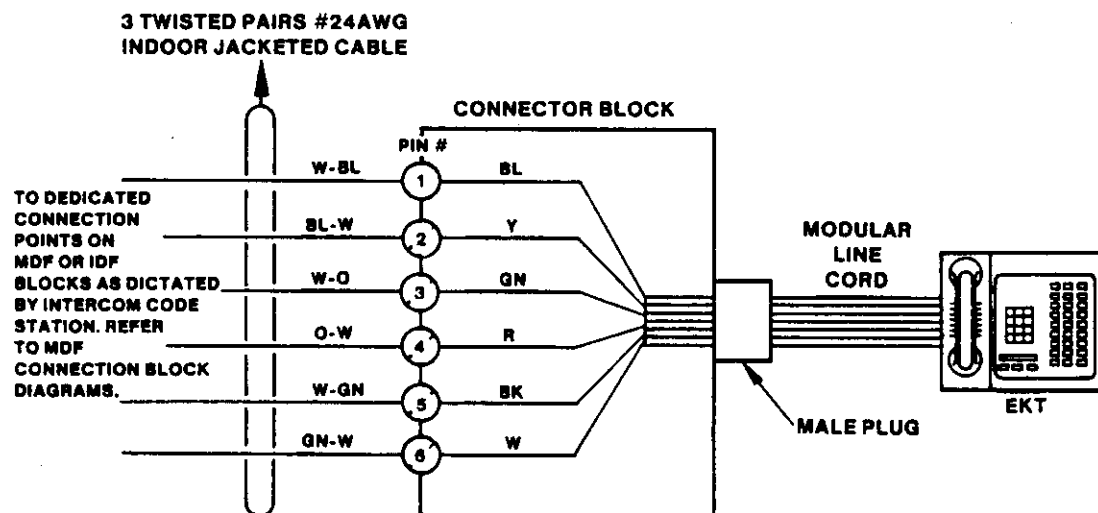

FIGURE 2 — STATION CONNECTOR BLOCK CONNECTIONS
is 25 feet. The 6 conductors of the station running cable and the 6 conductors of the station block are connected as shown in Figure 2.
2.6.1 The color code sequence employed in the three currently most popular models (Automatic Electric GTE, Suttle, and Northern Telecom) is shown in Figure 2.